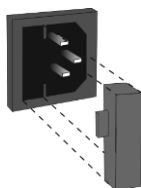
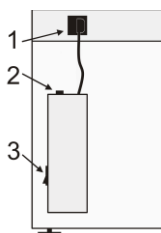
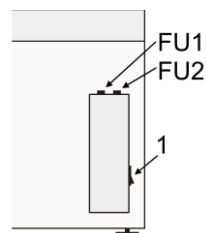

Figure 4.
Figure 5
Figure 6
8.3.1. Fuse for the control box. Disconnect the unit from electric circuit. Remove power cable from its socket on the rear side of the unit. Open the fuse holder by pulling out the holder (fig. 4, compact models) or by screwing off the holder lid marked FU2 (fig. 6, model **UVT-S-AR**). Check the fuse and replace if necessary, **M** 3.15 A (type **M** - time lag: **Medium**).
8.3.2. Fuse for the mains outlets (for models with built-in mains outlets). Disconnect the unit from electric circuit. Open the fuse holder by screwing off the holder lid (fig. 5/2 or fig 6, FU1). Check the fuse and replace if necessary, **M** 5.0 A (type **M** - time lag: **Medium**).